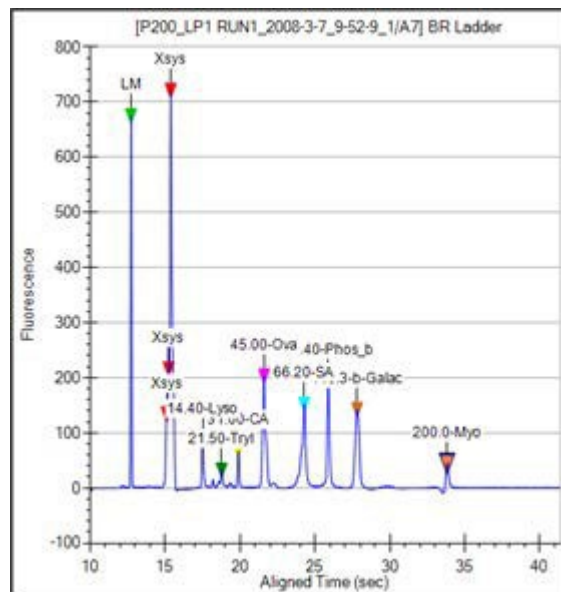

Figure 8. Markers - Protein
- 6 A **Lower Marker** is the internal standard used to align the ladder data with data from the sample wells. Figure 8 shows an example of the assigned **Lower Marker** peak (marked LM) in a sample well.